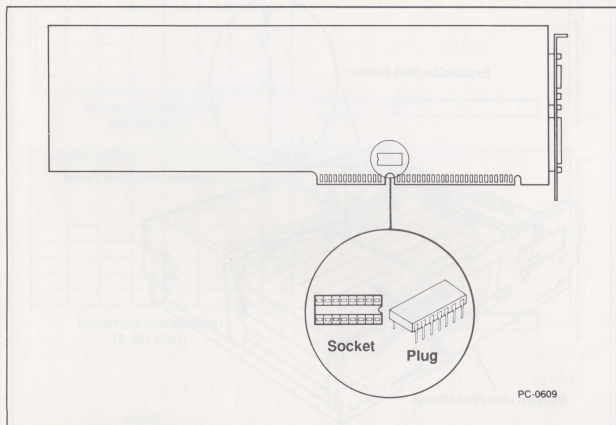

Figure 6-4 Location of the PC selection plug socket on the Above™ Board
Be sure the socket shown in Figure 6-4 is empty. This socket is for the PC selection plug, which should be inserted only in IBM PC, XT, and compatible computers and IBM Personal System/2 Model 30 computers. The PC selection plug is not installed at the factory, so the socket should be empty. If the socket isn't empty, remove the plug. (Do not remove the socket.)
- Insert the PC selection plug in the socket on the Above Board. (Refer to Figure 6-4 for the location of the socket.) The PC selection plug allows you to use the Above Board in an IBM PC, XT, or compatible computer.
- 7 If you're installing the Above Board in a Model 30, you must insert the PC selection plug. Lay the Above Board on a clean, dry surface and insert the PC selection plug in the socket near the bottom edge of the Above Board. Refer to Figure 6-4 for the location of the PC selection socket.